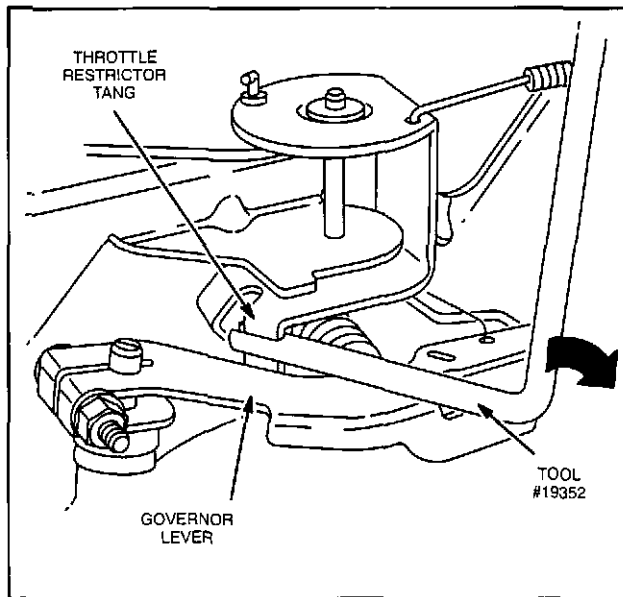

Fig. 157 – Adjusting Throttle Restrictor Tang
12. With equipment control lever in SLOW position and engine running at governed idle RPM, use tang bender, Tool #19352, and bend throttle restrictor tang so that tang just contacts governor lever. Fig. 157.
- 12. With equipment control lever in SLOW position and engine running at governed idle RPM, use tang bender, Tool #19352, and bend throttle restrictor tang so that tang just contacts governor lever. Fig. 157.